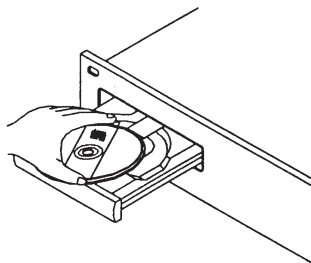
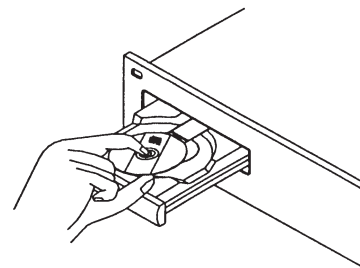

Figure 2 - 5 in. / 12cm disc
Figure 3 - 3 in. / 8cm disc
A. FRONT CONTROLS (FIGURE 3)
1. TRANSPORT TRAY - This tray is used to load and unload compact disc's into the drive mechanism. The tray is opened and closed by pressing the *OPEN/CLOSE BUTTON (18)*. Never attempt to force the transport tray open or closed when the power is turned off.
The MCD-110 can play both 3 inch (8 cm) and 5 inch (12 cm) compact discs (CD's). Odd shaped and oval CD's are not compatible. When loading a CD into the unit always hold the disc by its' edges and place it in the disc tray. Never touch the signal surface (the glossy side). When using 5 inch/12 cm discs, place the disc in the outer tray guides (figure 2), and when using 3 inch/8 cm discs, place them securely in the inner guides (figure 3).